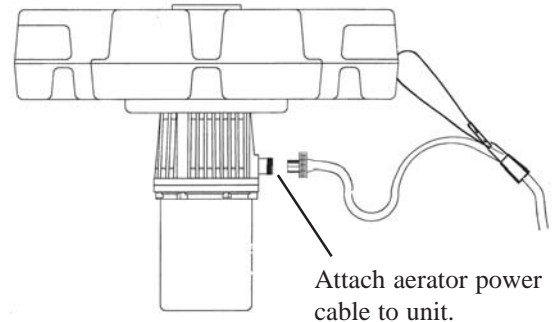

Figure 2
A. Attach your Otterbine power cable to the aerator. Align the pigtail connector on the cable up to the pin configuration on the bulkhead on the aerator. **HAND TIGHTEN** the coupling nut onto the bulkhead connector. **DO NOT OVER TIGHTEN -- OVER TIGHTENING WILL CAUSE A FRACTURE IN THE CONNECTOR AND COULD LEAD TO A SHORT CIRCUIT--**see Figure 2.